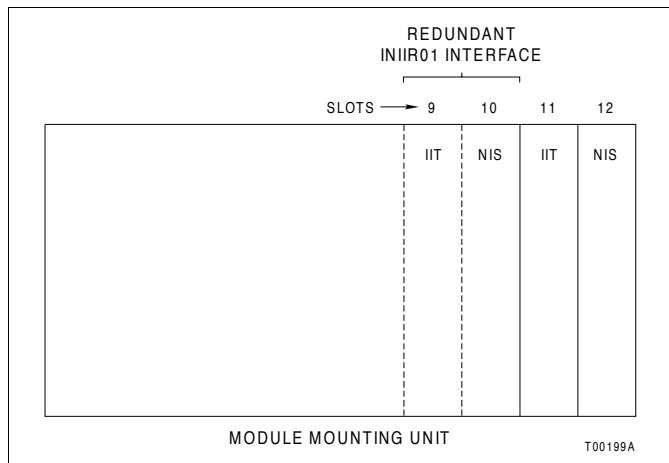

Figure 3-5. Typical INIIR01 Module Slot Assignment
1. There must be two empty slots (side by side) available in one module mounting unit (on each network) to install one interface. Redundant interfaces require four slots or more depending on the application (refer to Figure 3-5). Additional slots will be needed if using redundant digital I/O modules to enable a transceiver. Prepare the module mounting units in which to mount the interface so that the required slots are available.